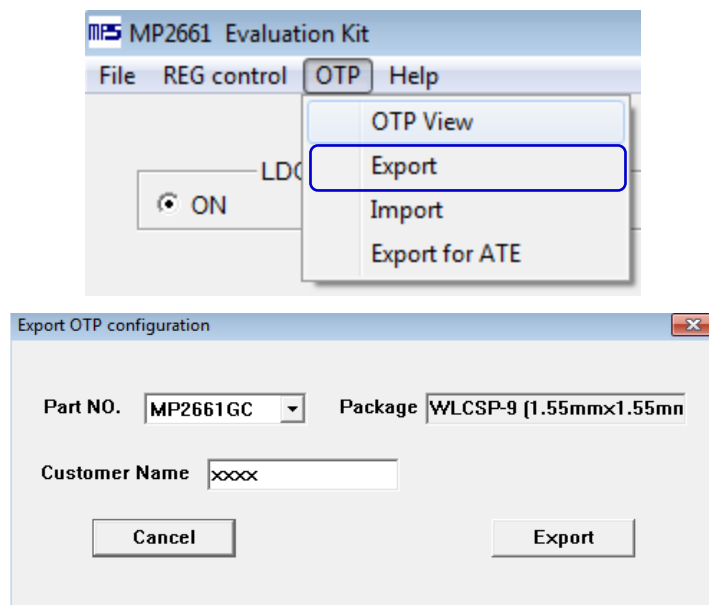

Figure 10: Select “Export”
5. Select values from the drop-down menus. Please make sure all the parameters are populated before selecting the EXPORT in the tool bar. Export the configuration by clicking EXPORT. (see Figure 10).